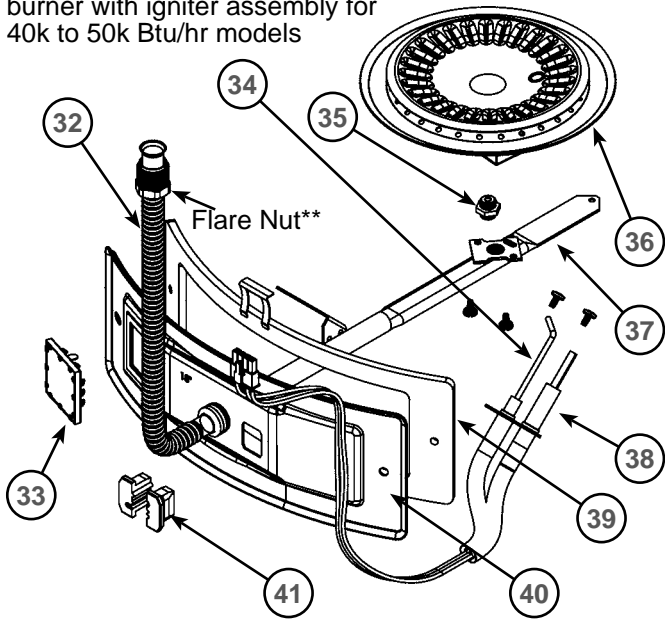
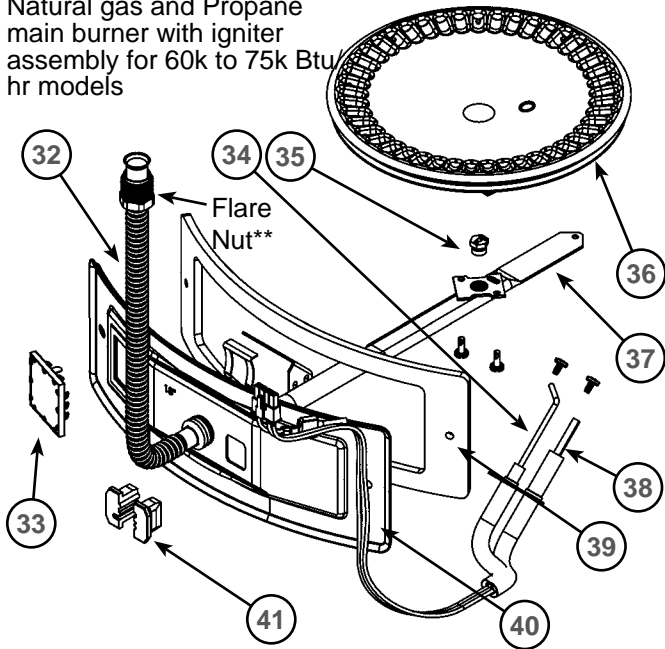

Figure 53
Figure 54
- 14 Manifold Door Assembly (behind outer door) (see Figure 6 & Figure 7) (see also Figure 53 & Figure 54)
- 32 Flexible Manifold Tube (see Figure 6 & Figure 7) (see also Figure 53 & Figure 54)
- 33 Viewport (see Figure 6 & Figure 7) (see also Figure 53 & Figure 54)
- 34 Flame Sensor Rod (see Figure 6 & Figure 7) (see also Figure 53 & Figure 54)
- 35 Gas Orifice (see Figure 6 & Figure 7) (see also Figure 53 & Figure 54)
- 36 Sheet Metal Burner (see Figure 6 & Figure 7) (see also Figure 53 & Figure 54)
- 37 Gas Manifold (see Figure 6 & Figure 7) (see also Figure 53 & Figure 54)
- 38 Hot-Surface Igniter (see Figure 6 & Figure 7) (see also Figure 53 & Figure 54)
- 39 Manifold Door Gasket (see Figure 6 & Figure 7) (see also Figure 53 & Figure 54)
- 40 Manifold Door (see Figure 6 & Figure 7) (see also Figure 53 & Figure 54)
- 41 Two Piece Grommet With Clip (see Figure 6 & Figure 7) (see also Figure 53 & Figure 54)